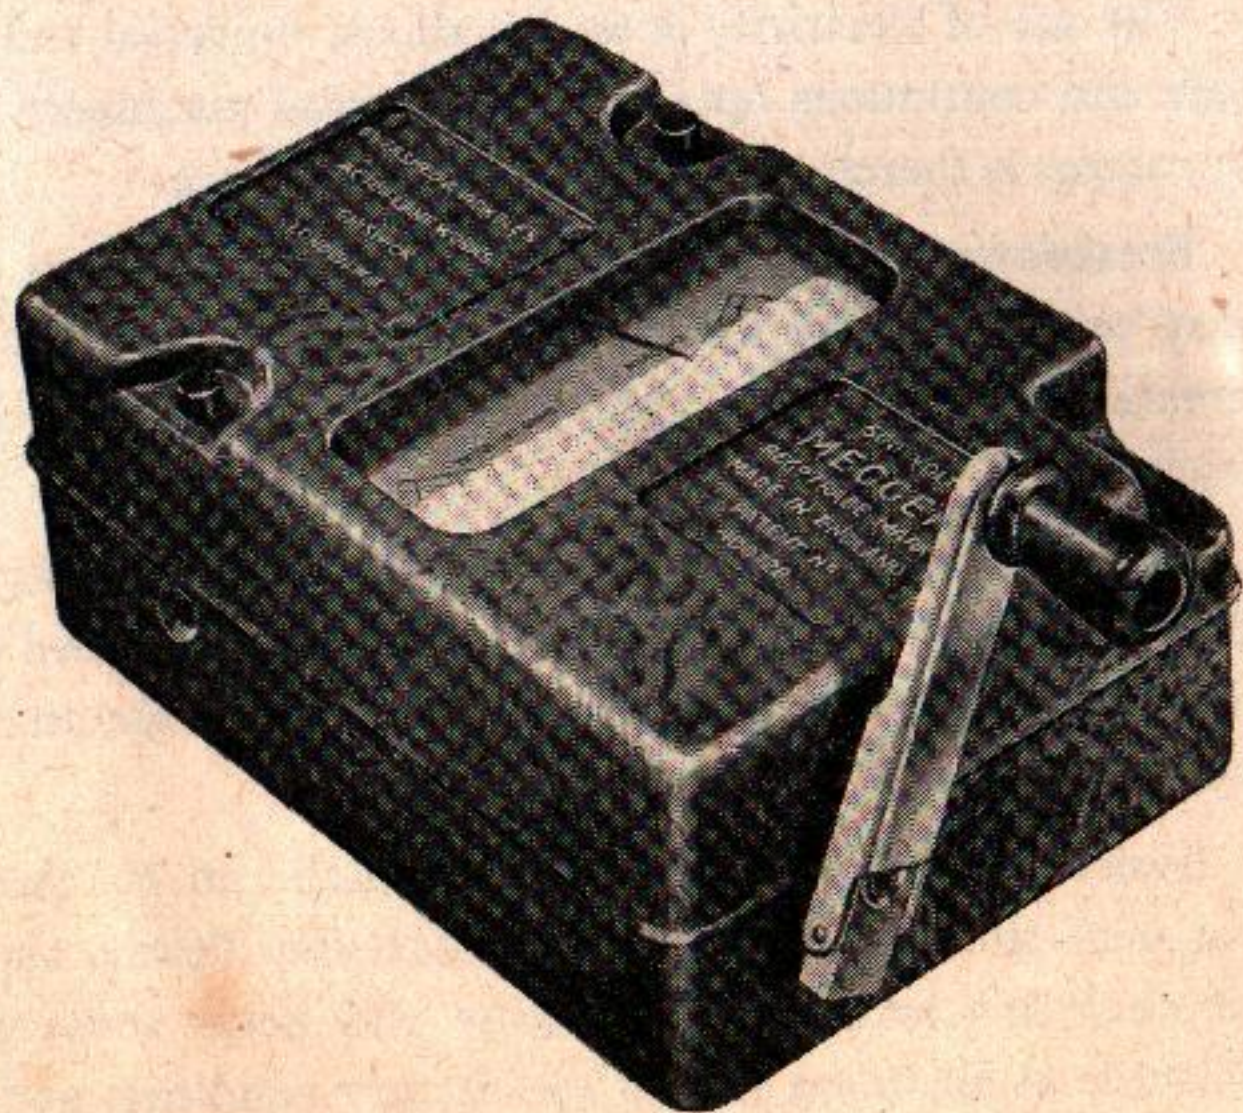

Figure 1
1. *The wee-Megger Tester* (Figure 1)
Megger Insulation Testing Sets (see pages 29 and 31) are made in various sizes, Figure 1 showing the small insulation tester known as the wee-MEGGER-TESTER.